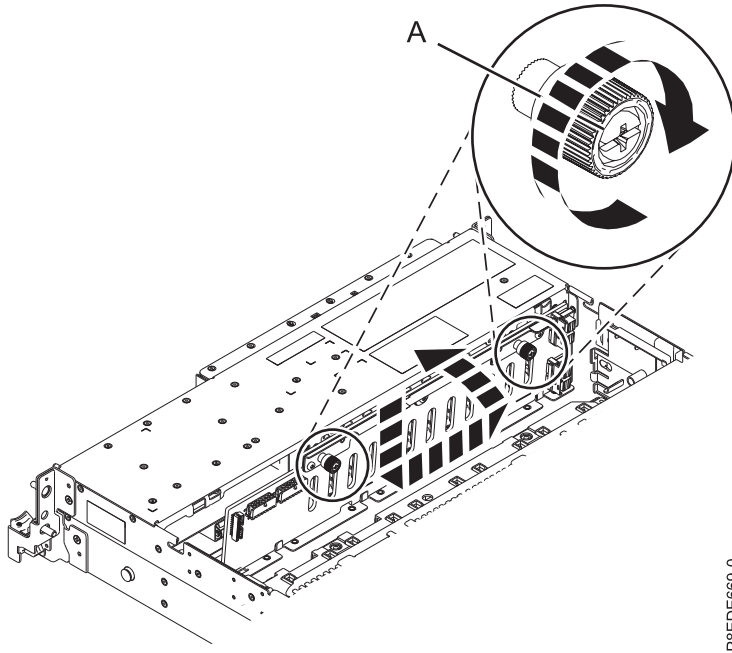

Figure 95. Replacing the disk drive backplane
- c. Shift the backplane slightly to the left to secure it in place, as is shown in Figure 95 on page 93.
- d. Carefully tighten each of the disk drive backplane's captive thumbscrews (A) until each one is secured to the system's chassis.